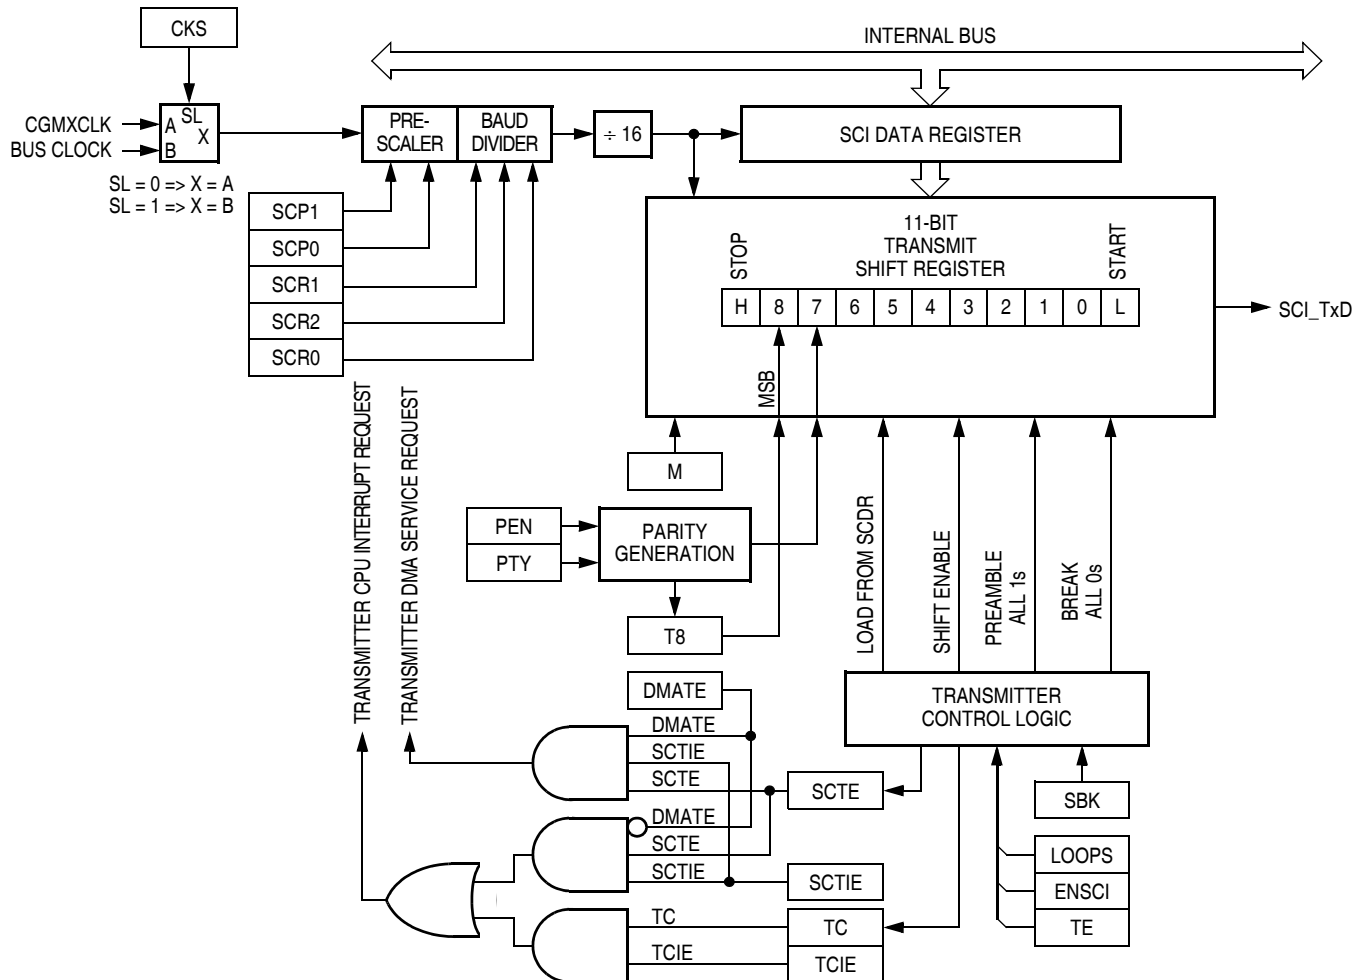

**Figure 13-7. SCI Transmitter**
**Figure 13-7** shows the structure of the SCI transmitter.